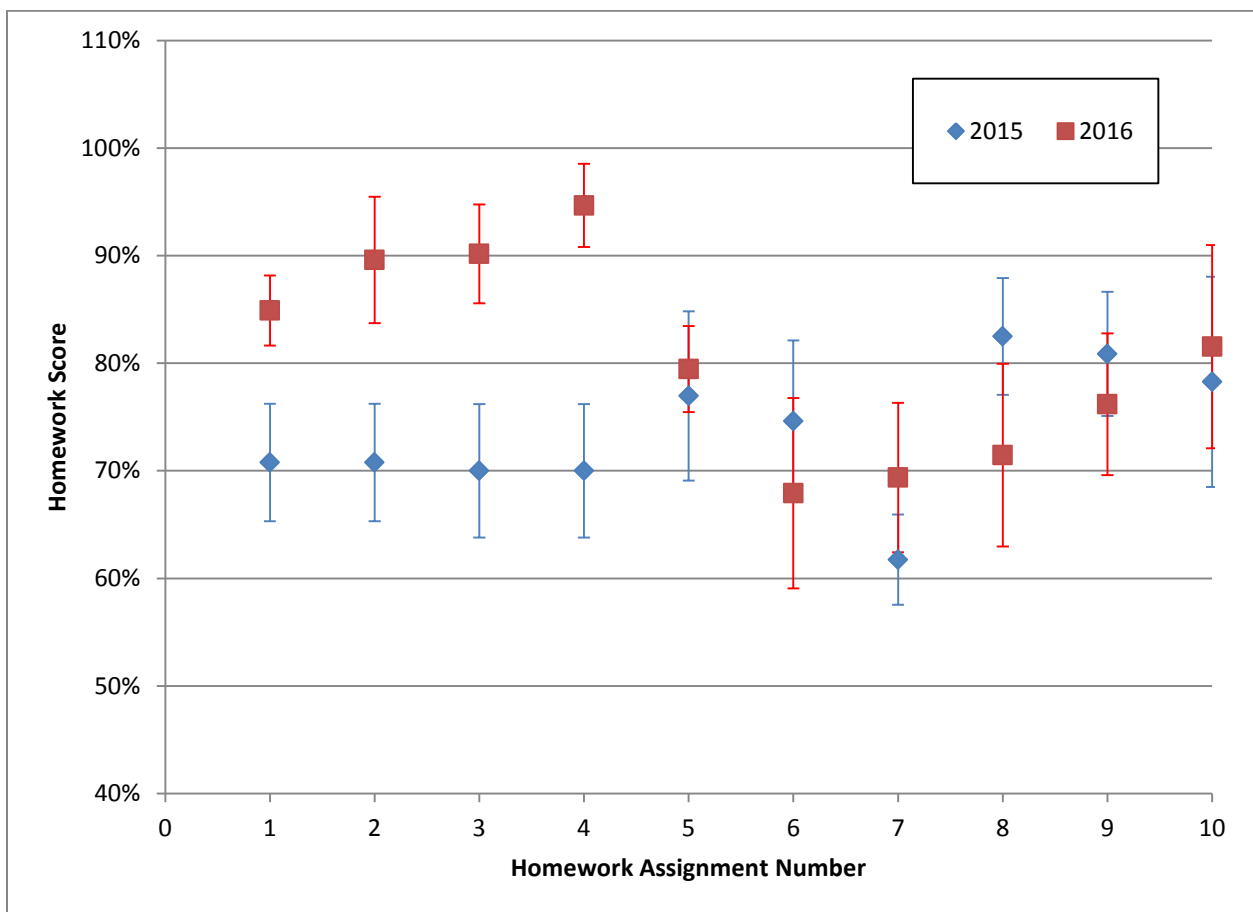

Figure 2. Average Homework Scores for two cohorts of students. The error bars show a standard error based on a 95% confidence interval.
Homework scores displayed two interesting trends. Figure 2 shows a comparison between the two cohorts based on scores for submitted items only, i.e., non-submittal scores of zero were omitted from the average scores shown. Again, the dip in scores around the time cam design was introduced in lecture is present. Again, the error bars shown in Figure 2 represent the standard error based on a 95% confidence interval and are calculated using Equation (1).